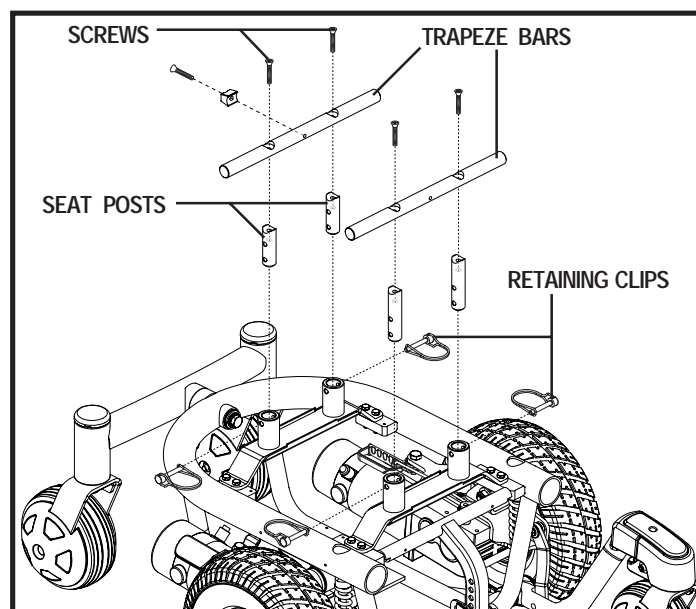

Figure 13. Seat Height Adjustment - Trapeze Bars
7. Loosen the screws that attach the trapeze bars to the seat posts. See figure 13.
8. Remove the retaining clips that secure the seat posts to the power base. See figure 13.